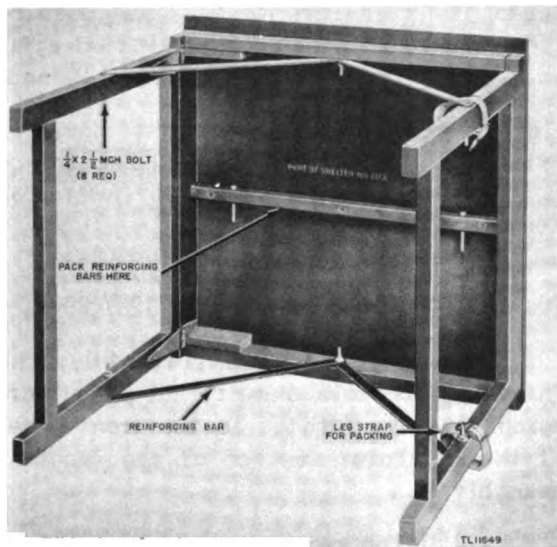

Figure 38. Shelter HO-20-B equipment table erection detail.
(1) Unpack and assemble one of the wooden tables (fig. 38) and place it in position next to the steel table. Remove the wooden frame for support-